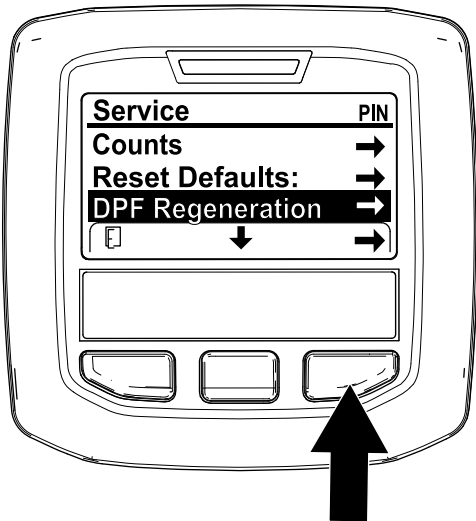

Figure 35
- 1. Access the Service menu, press the center button to scroll down to the DPF REGENERATION option (Figure 35).
- 2. Press the right button to select the DPF Regeneration entry (Figure 35).